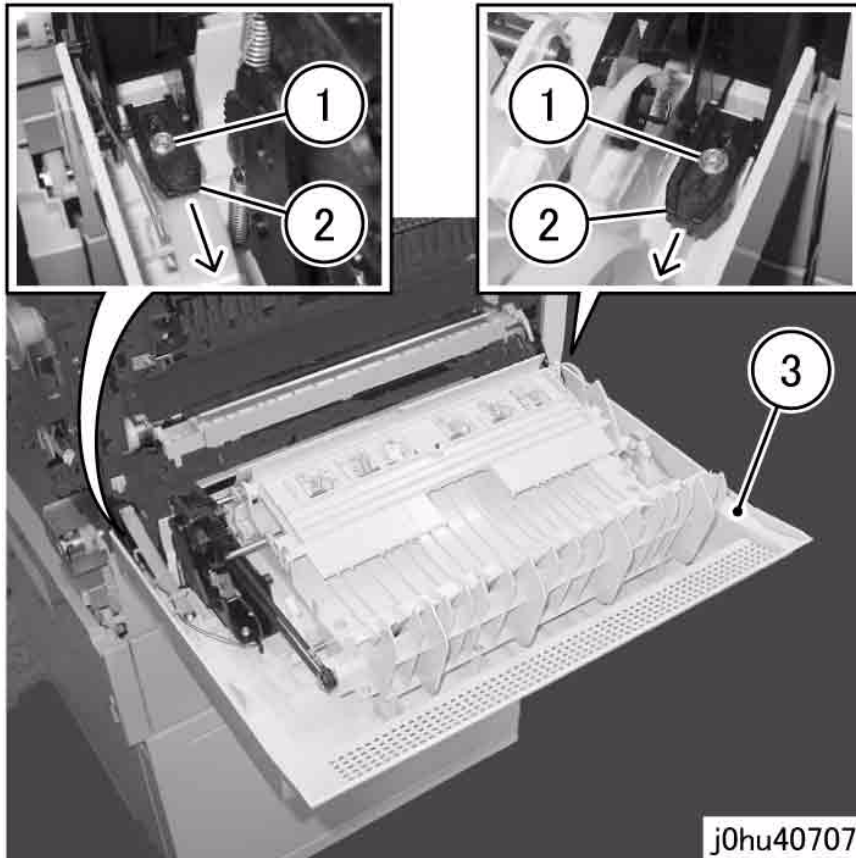

Figure 5 Removing the Left Hand Cover Assembly
7. Remove the Duplex Module (Figure 5).